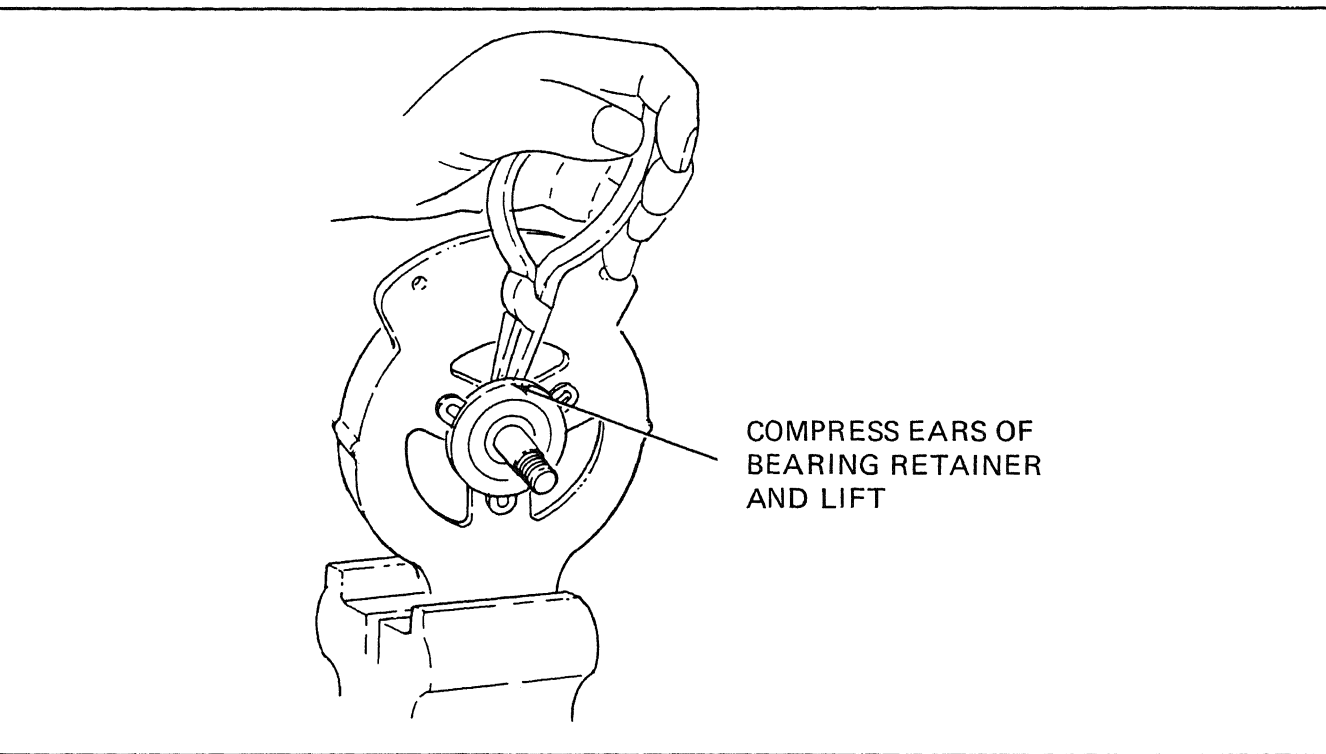

Figure 5-28.14. Front Bearing Retainer Removal
- (13) Remove the front bearing retainer (Figure 5-28.14) using needle nose pliers to compress the ears of the retainer.